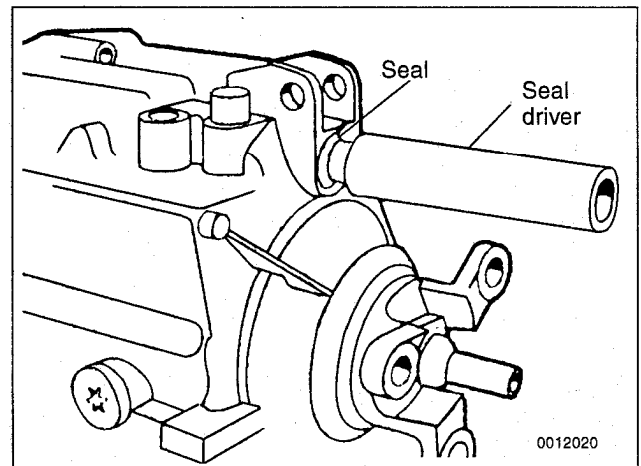

**Fig. 4.** Selector shaft seal being installed.
7. Coat new seal with transmission fluid. Drive new seal in flush with housing. Use BMW special seal installation tool no. 23 2 260 or equivalent and a soft-faced (plastic) hammer. See Fig. 4.